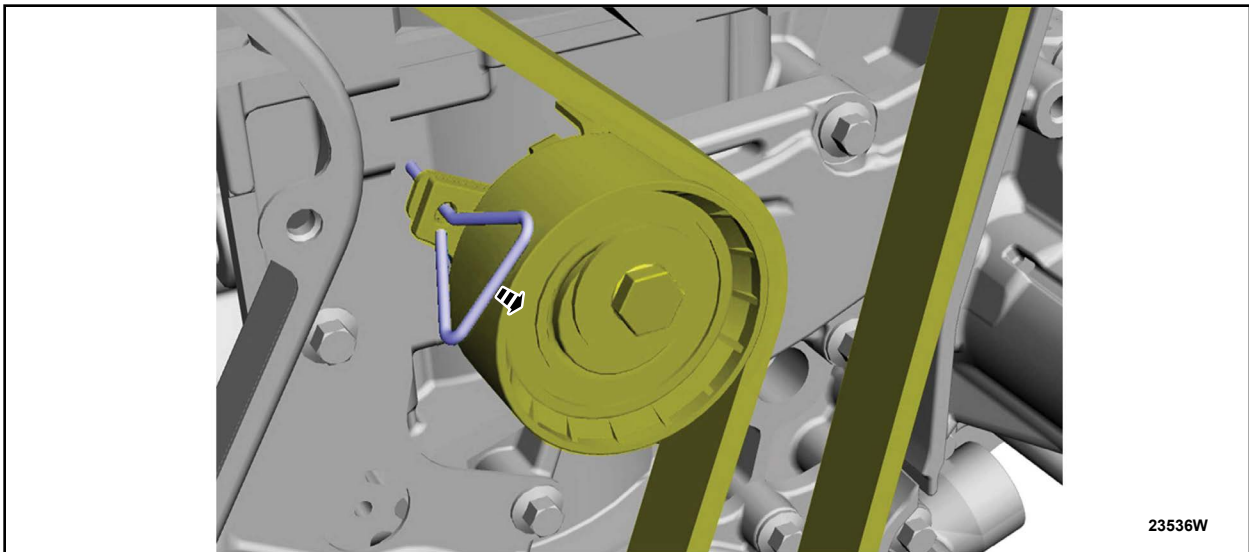

FIGURE 28
35. Install the timing belt. Then, remove the locking pin. See Figure 28.